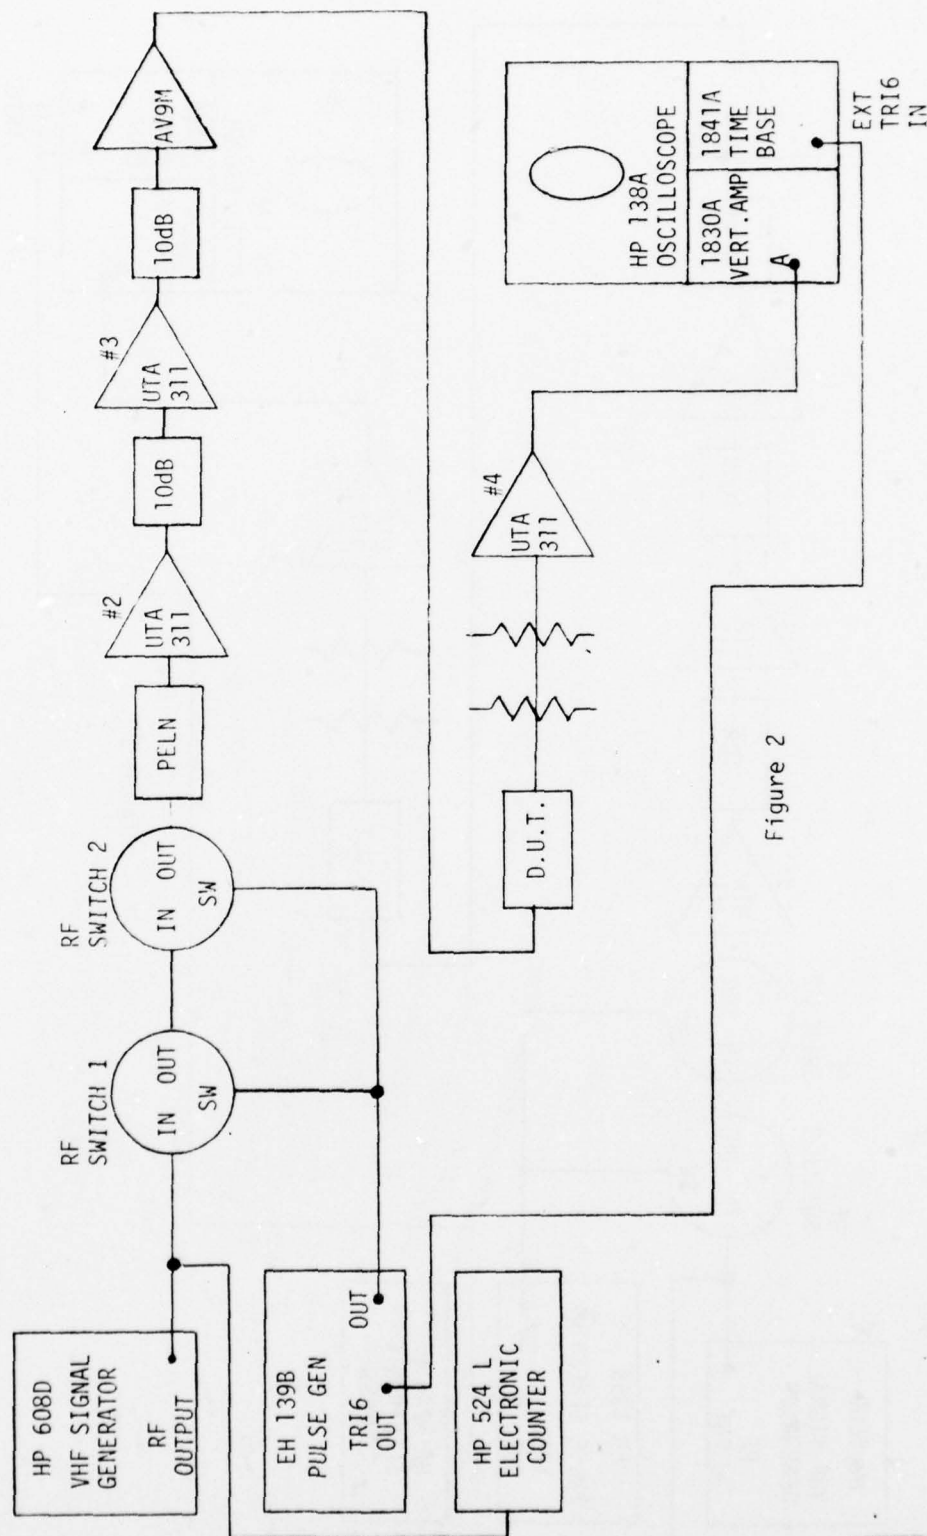
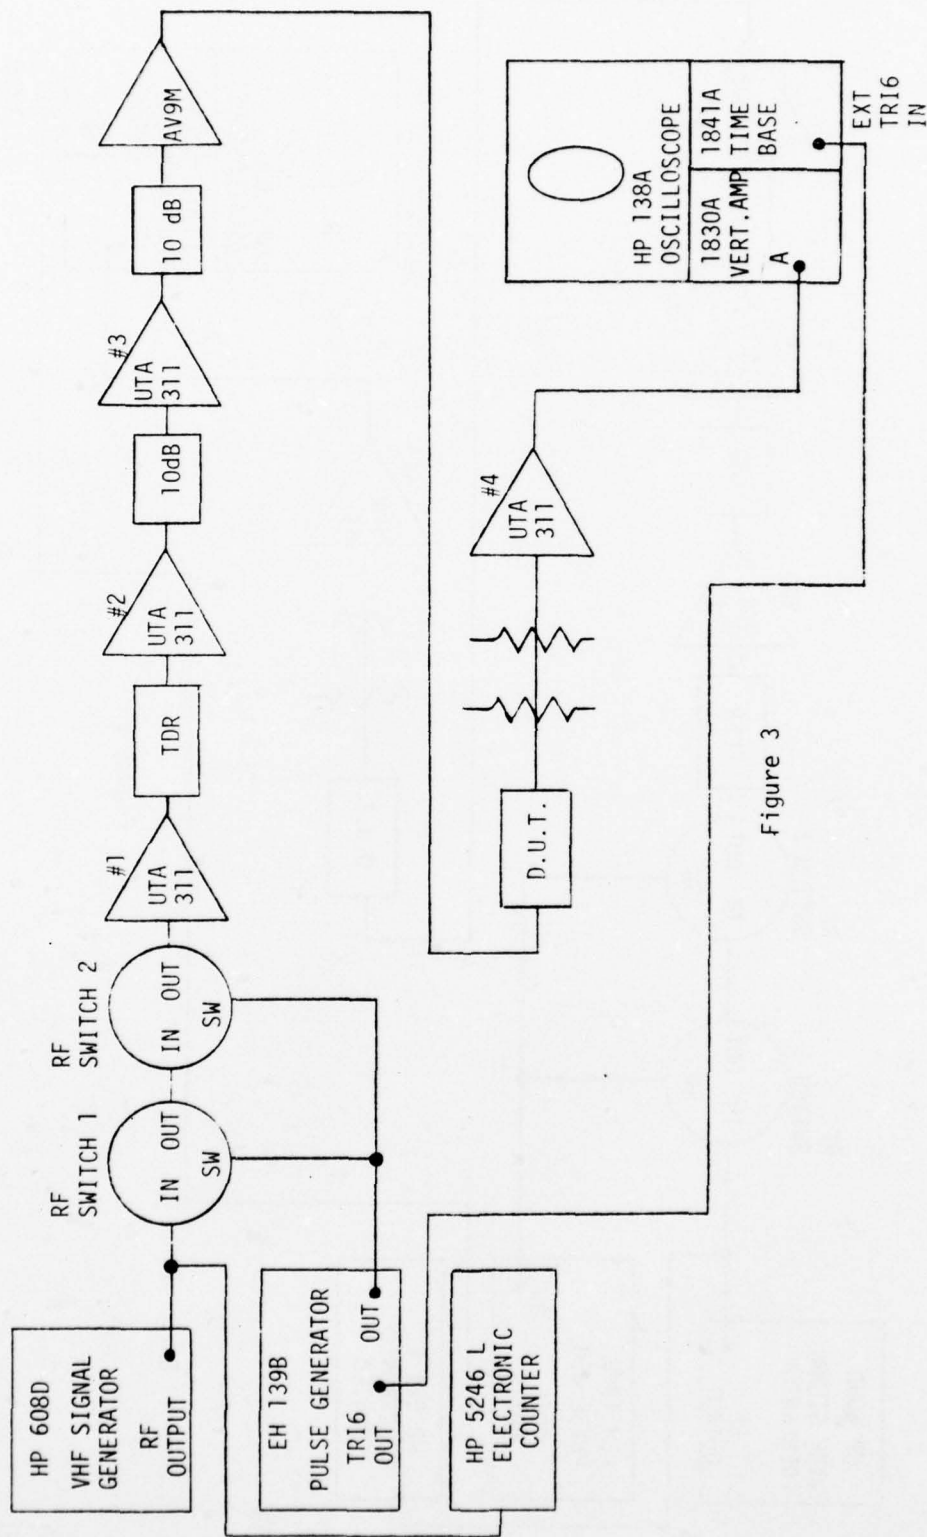

Figure 2
Figure 3
Insertion loss for the TDL-100's and TDL-200's is measured in the time domain. See Figure 3.
- 6.4 Feedthrough The setup for measuring feedthrough suppression is shown in Figure 1 for BPQ and BPLN, Figure 2 for PCQ and PCLN and Figure 3 for TDL-100 and TDL-200. To measure feedthrough note the level of the feedthrough and adjust the step attenuators until the main response is at the same level. Record the amount of dB change of the step attenuators as the feedthrough level.